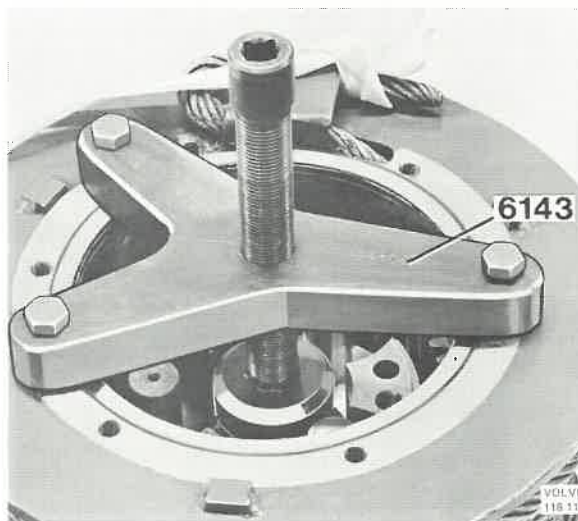

Fig. 92-49. Pulley of the cable drum
8. Remove the circlip securing the planetary gear cage to the shaft. Fit 6143, see Fig. 92-49, and pull off the cable drum and cage.